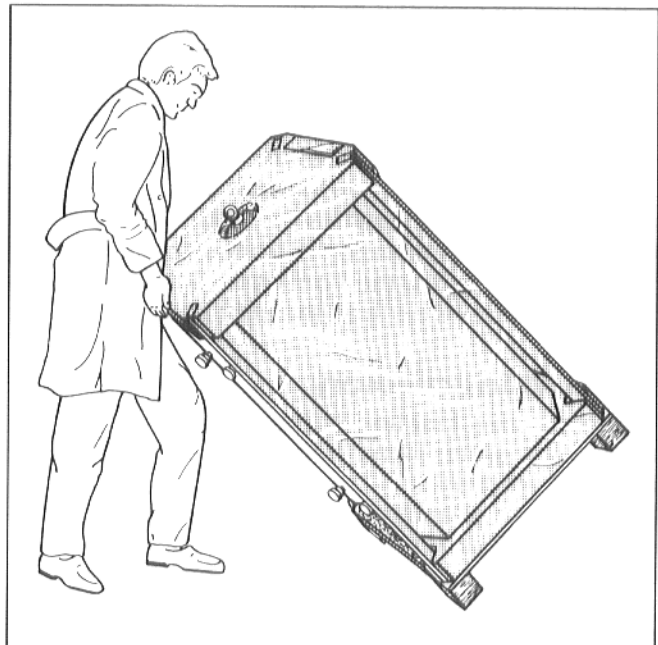

Fig. 17
- Tilt the storage tank over the edge of the pallet and lift it into an upright position (Fig. 17).